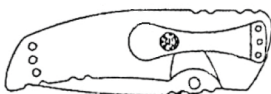

FIGURE 2
- 3) With knife in the position shown in Figure 2, use T8 Torx wrench provided to remove the screws that secure the pocket clip.